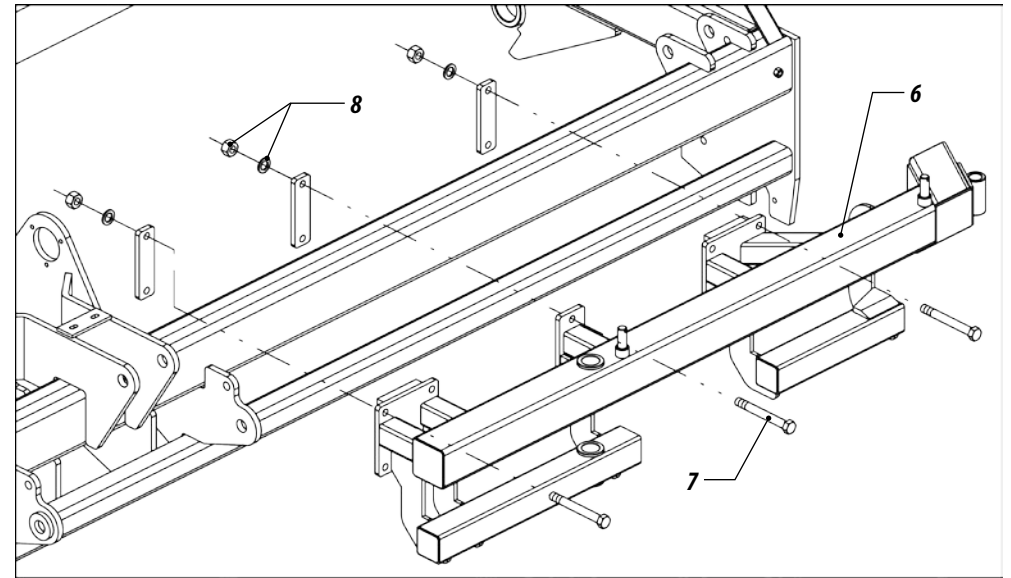

Figure 8
- 22 - Attach the header support (6) to the frame of the equipment through screws (7), nuts and washers (8), according to detail "A", FIGURE 8.